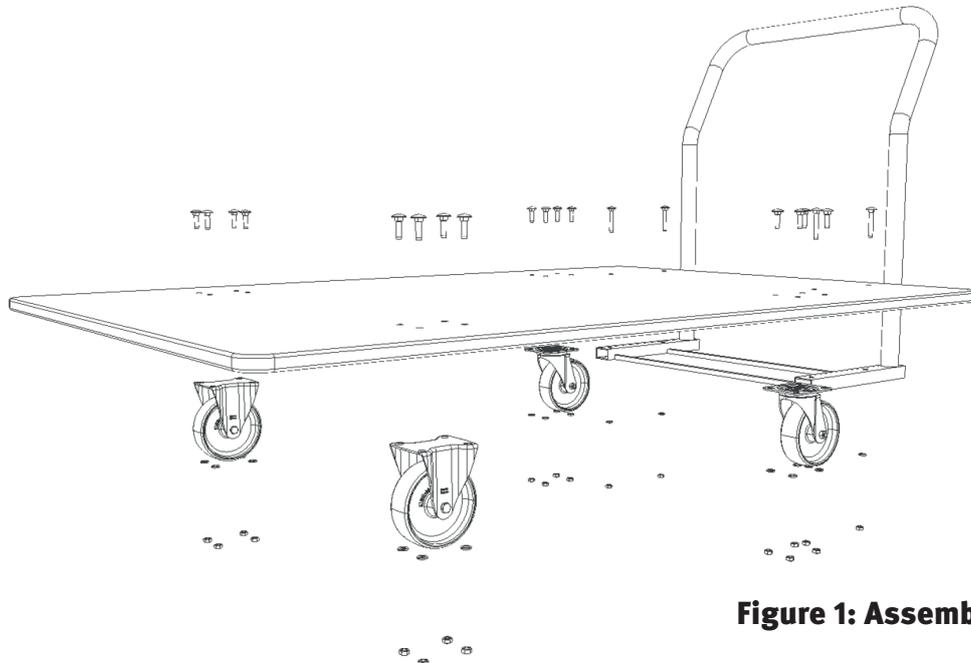

Figure 1: Assembly plan
Please note: Make sure you mount the swivel castors at the same end as the handlebar (2) (as shown in figure 1).